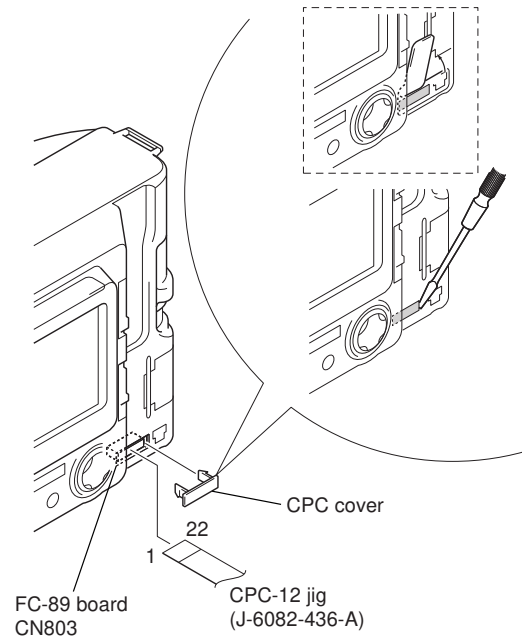

Fig. 5-1-3
- 2) Connect the Adjusting remote commander to FC-89 board CN803 via CPC-12 jig (J-6082-436-A). (See Fig. 5-1-3)